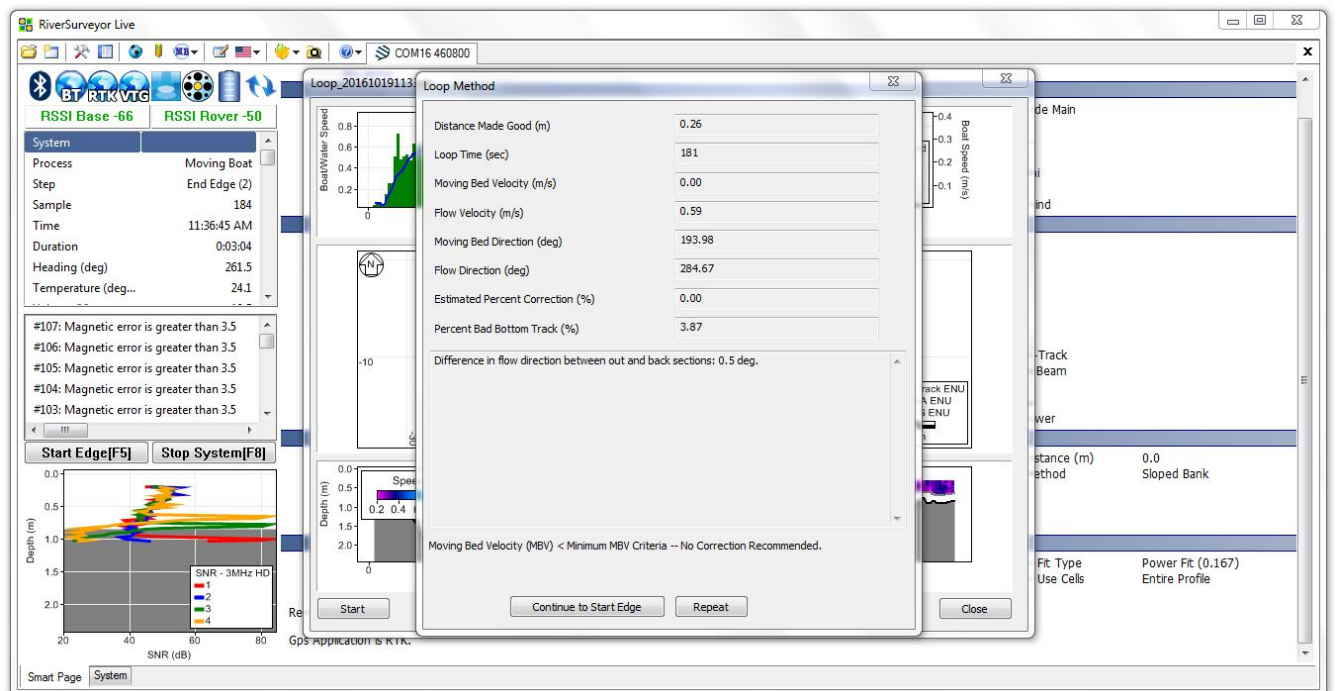

Figure 181. Loop Method Results
10. The results will be displayed the PC software as shown in Figure 181. Press **Continue to Start Edge** to begin regular discharge measurements or **Repeat** to perform the Loop Method again